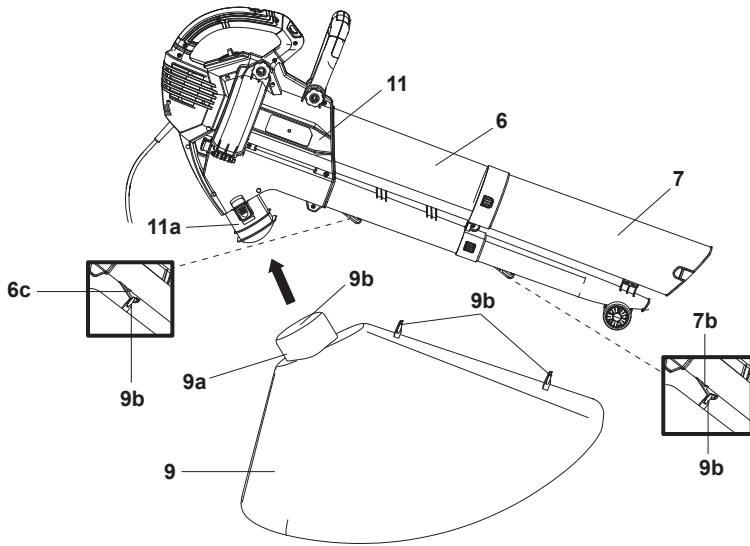

Fig. 2
1. Align the bag connector (9a) to the outlet nozzle (11a) and insert it all the way to the stop (Fig. 2). Ensure that the two latches (9d) lock in position.
2. Attach two hanging loops (9b) to the bag hooks (6c / 7b) on the upper tube (6) and the lower tube (7).